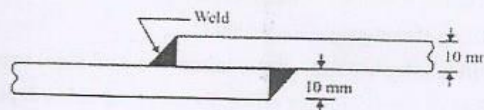

Fig.5
- (b) A lap welded joint is to be made as shown in Fig. 5